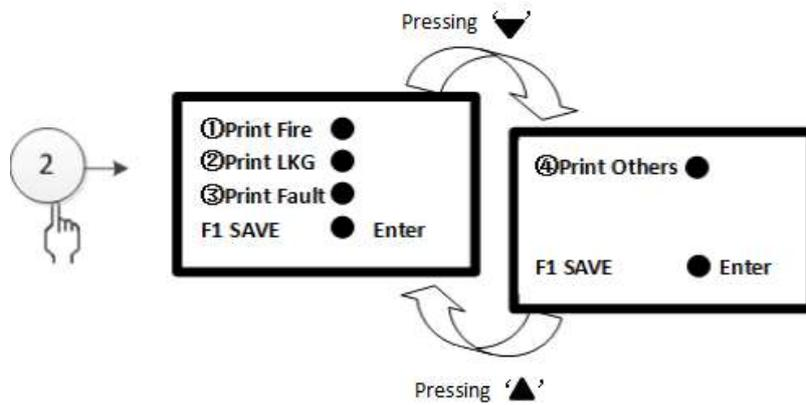

Fig. 3-20
② Print Set
Enter the screen as shown in Fig. 3-20 by pressing number 2 or moving cursor to select ②. In this screen, there are 4 print options for selection: ① Fire Alarm ② Association ③ Fault ④ Others. “●” means printing and “Blank” means no printing. Pressing UP and Down move and pressing “Enter” switch between